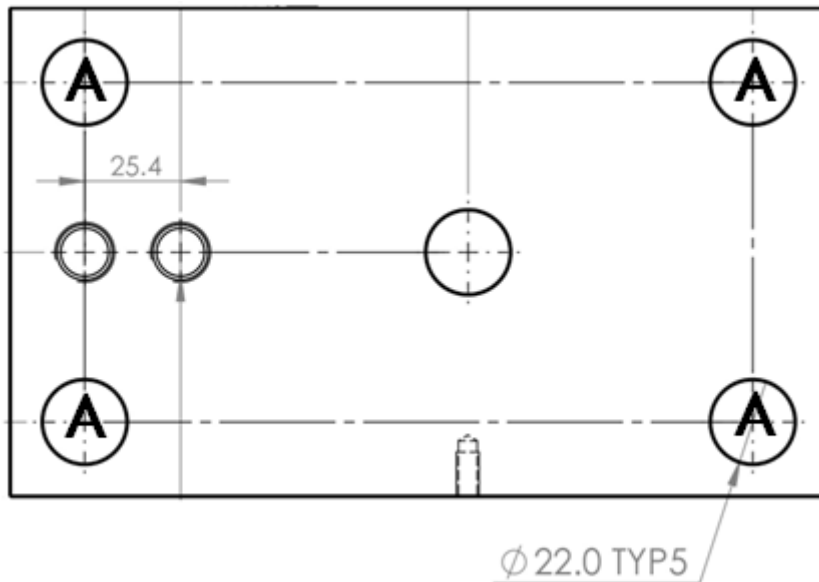

Figure 12: RSLC-4 Plate Dimensions
1. Figure 12 illustrates the RSLC-4 plate. Drill four holes into the concrete base as indicated (A).